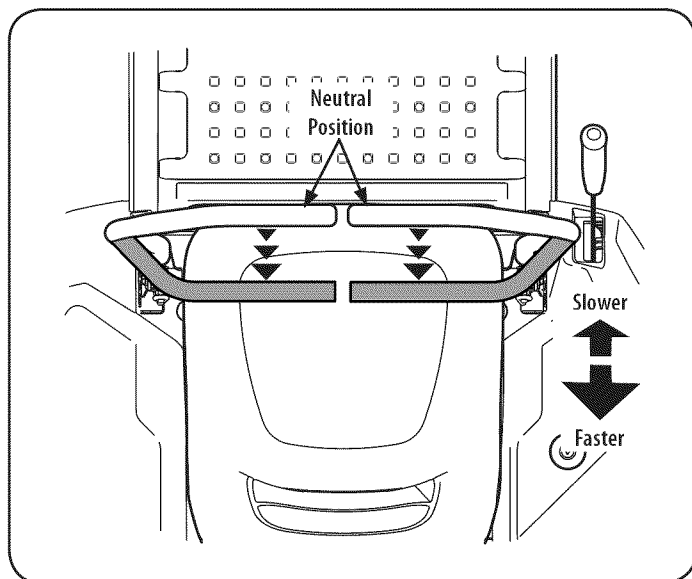

Figure 16
1. Slowly and evenly move both drive control levers rearward. The riding mower will start to move in the reverse direction. See Figure 16.